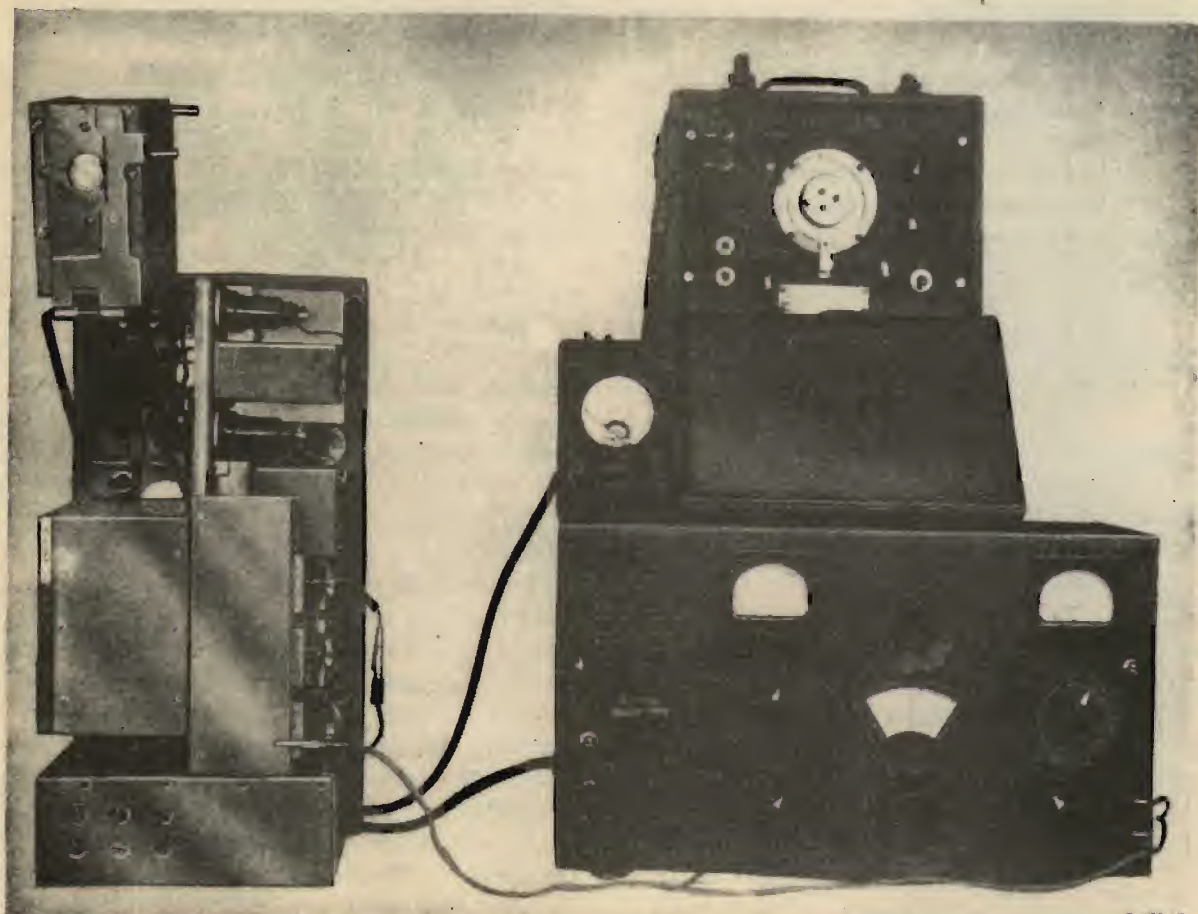
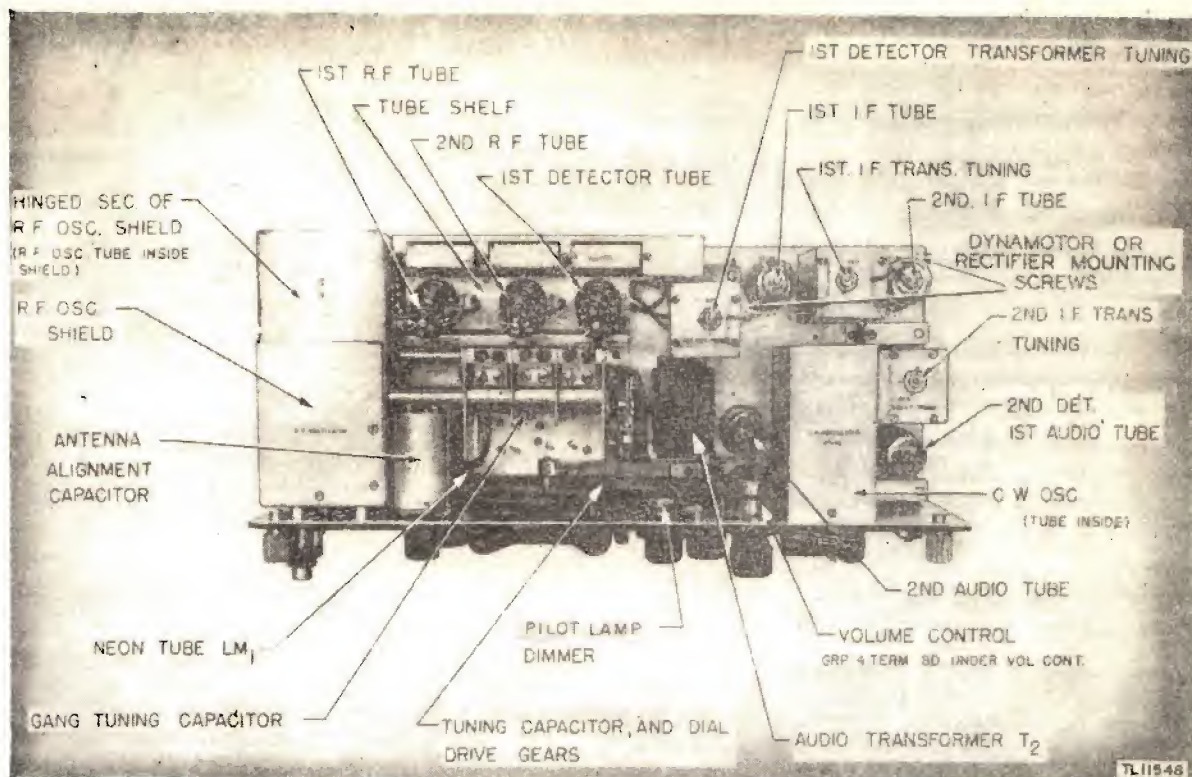

Figure 12. Radio Receiver BC-312-(\*), or BC-342-(\*), typical set-up for i-f alignment.
Figure 13. Receiver chassis, top view.
**a. GENERAL.** The rectifier can be tested and repaired without removing it from the receiver. Remove the two screws from the top of the chassis (fig. 13). Turn the receiver chassis up and down and remove the screw pin from the inner mounting hinge. Swing the rectifier assembly away from the panel. Discon-
a. PREPARATION. Set up the receiver and alignment equipment (fig. 12). Calibrate the signal generator for a 470-ke signal (par. 16). Remove from the top of the chassis the two screws which hold the power supply stationary (fig. 13). Remove the screw from the dynamotor or rectifier inner mounting hinge and swing the power supply upward, securing it in position with a rack or block of wood. Set the OFF-M. V. C.-A. V. C. switch to M. V. C., the CRYSTAL PHASING control to OUT, the C. W.-OSC. switch to OFF, and the VOL. control to maximum. Loosen the i-f transformer screw locknuts.
(1) Attach the signal generator ground lead to the receiver chassis and connect the dummy antenna (300-ohm resistor) between the grid cap of the second i-f amplifier tube and the output lead from the signal generator.
(2) Connect the output meter to the PHONES 2d AUDIO jack, and adjust the signal generator attenuator to give a small deflection on the output meter, using the smallest scale possible.
(3) Adjust the second i-f transformer adjustment screws (figs. 13 and 14) located on the top and bottom of the transformer for maximum output indication.
(4) Reduce the signal generator output whenever necessary during alignment to avoid overloading the receiver.
(5) Move the dummy antenna to the grid cap of the first i-f amplifier tube; adjust the first i-f transformer adjustment screws for maximum output indication.
(6) Connect the dummy antenna to the grid cap of the first detector tube; adjust the first detector transformer adjustment screws for maximum output indication.
(7) Leaving the dummy antenna connected to the first detector tube, readjust the second i-f, first i-f, and first detector transformer adjustment screws, in the order named, for maximum output.
(8) Carefully tighten the adjustment screw locknuts, avoiding any change in the settings of the screws. A change in the deflection of the output meter while a locknut is being tightened indicates that the adjustment screw has been moved and must be readjusted.
**a. PREPARATION.** Set up the equipment (fig. 12). Calibrate the signal generator to 470 kc (par. 16). Set the OFF-M. V. C.-A. V. C. switch to M. V. C. or A. V. C. and the C. W.-OSC. switch to ON. Turn the CW-OSC ADJUST control so that the arrow is horizontal, pointing to the right. Remove the cap screw above the C. W.-OSC. switch, permitting access to the c-w oscillator adjustment screw. Connect a headset or speaker to the receiver.
**a. PREPARATION.** Set up the equipment (fig. 12). Calibrate the signal generator to 470 kc (par. 16). Set the OFF-M. V. C.-A. V. C. switch to M. V. C. and the C. W.-OSC. switch to ON. Connect a headset or speaker and the output meter to the receiver.